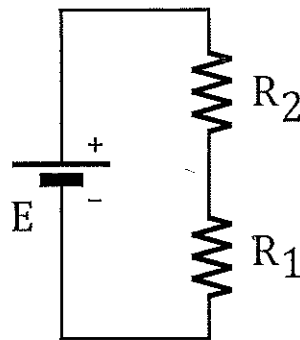
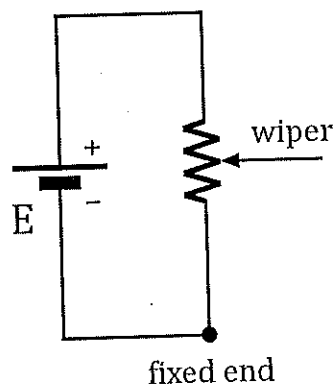

Figure 1: Series connection of two resistors and a voltage source.
Figure 3: The use of a variable resistor and a fixed voltage source to produce a variable voltage source.
The electric current (I) is the same in the series connection of the two resistors shown in Fig. 1. Since the resistors obey Ohm's law ($V = IR$) it follows that $\frac{V_1}{E} = \frac{R_1}{R_1 + R_2}$. For this reason the circuit is termed a "voltage divider." Voltage dividers are extremely useful when situations arise for establishing a voltage different from the supply voltage E .
I. Choose two resistors having resistances in the range of a few kilohms. Measure the resistances with an ohmmeter. Connect the two resistors as shown in Fig. 1 using a power supply producing about 10V for the source (E). Measure and record the voltage of the source and the voltage on each resistor. Using the resistances measured and the measured voltage for E , calculate the voltage on each resistor and compare with the measured values.
In Fig. 3 the two fixed resistors R_1 and R_2 in Fig. 1 are replaced with a pot. The voltage between the wiper and either of the fixed ends can now be varied continuously by turning the shaft on top of the pot.
Connect the circuit shown in Fig. 3 using about 5V for E . Measure the voltage between the wiper and the fixed end. As you turn the shaft on the pot, explain why the voltage you measure must fall between 0 and E volts.